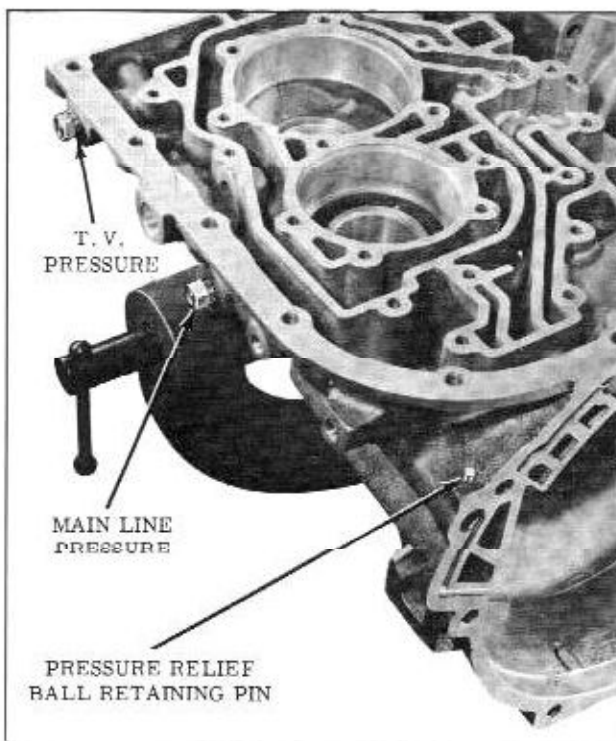

Fig. 3-56 Transmission Case
1. If pressure leak was indicated on diagnosis, replacement of the pressure relief ball or spring may be necessary. Pull the tapered pin then remove spring and ball check valve. (Fig. 3-56)
2. Remove two pressure take-off pipe plugs from transmission case. (Fig. 3-56)